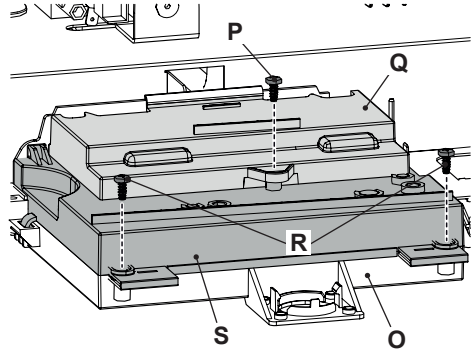

Figure 5.18
- Unscrew the screw **N** (Figure 5.17) and turn the control panel **O**, as shown in Figure 5.18.
- Unscrew the screw **P** and lift the cover **Q** to release the cables from the cable gland (Figure 5.18).
- Loosen the screws **R** and lift the cover **S** (Figure 5.18).